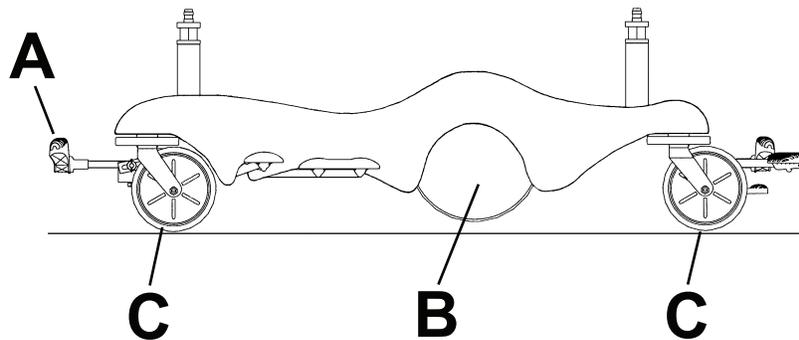

Figure 10 – Transporting without Big Wheel
3. Release the brakes. See *Applying and releasing the brakes* (page 16). Keep the brake/steer pedal (A) in the neutral (horizontal) position (Figure 10).